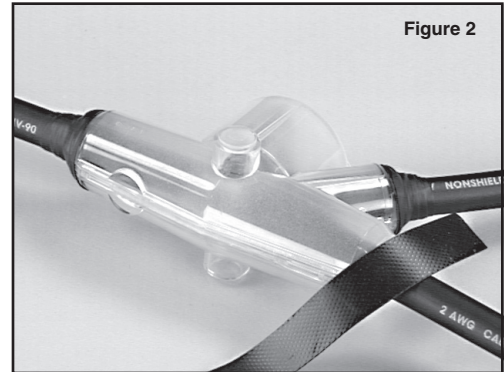

Figure 2
- 5.1 Trim mold ends with knife to fit cable slightly loose. Hold mold halves in place, centered over splice (bend branch cable to accommodate centering of mold). Snap mold halves together firmly. Check to see that both seams are carefully snapped together. Tape ends of mold body around cable to seal. Use supplied Scotch™ Electrical Tape 23 (see Figure 2).